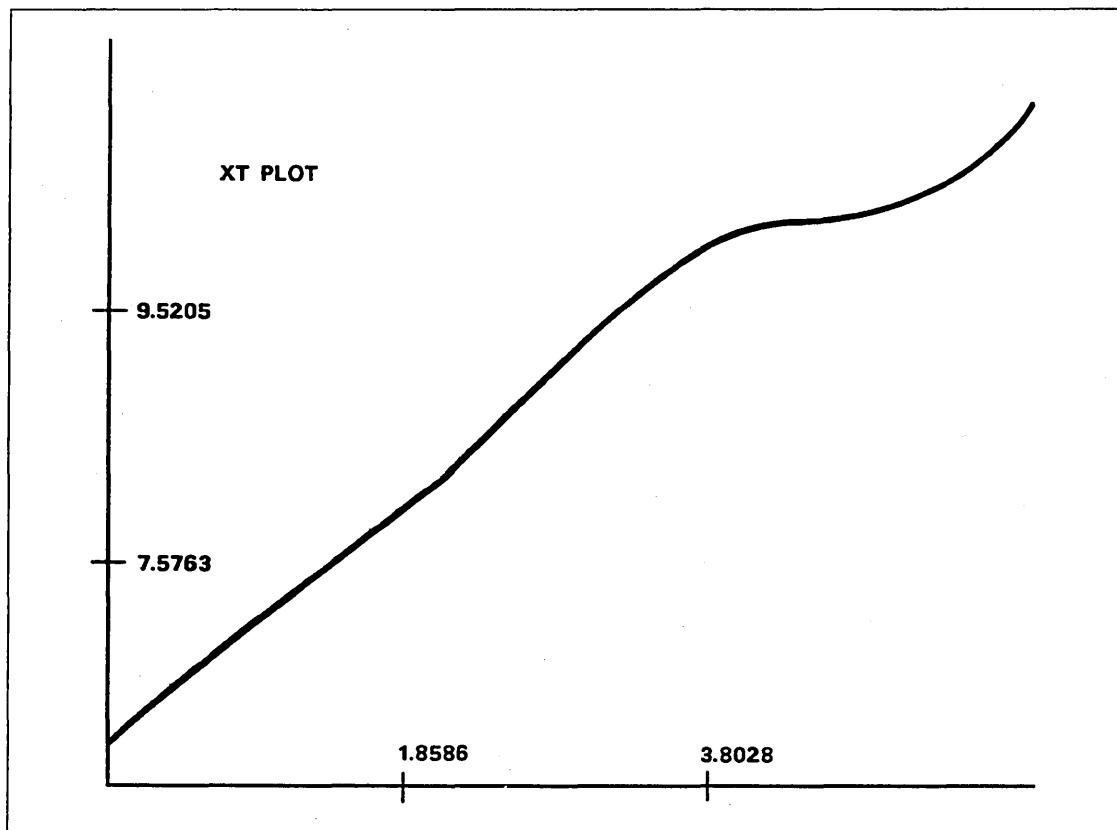

Figure 2-8. X Transform Range of the Spline
- 4 To display a graph of the xt coordinates. The current display is replaced by a plot of the spline's parametric range along the horizontal axis of the graph versus the spline's xt range along the vertical axis of the graph. (Refer to figure 2-8.)